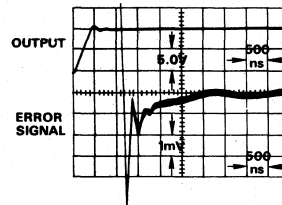

Figure 4. AD509 with 500pF Capacitive Load
**SETTLING TIME VS. CAPACITIVE LOAD.** The AD509 will drive capacitive loads of 500pF without appreciable deterioration in settling time. Larger capacitive loads can be driven by tailoring the compensation to minimize settling time. Figure 4 shows the settling time of a typical AD509, compensated for unity gain with a 15pF capacitor, with a 500pF capacitive load on the output. Note that settling time to 0.01% is still under 2.0μs.